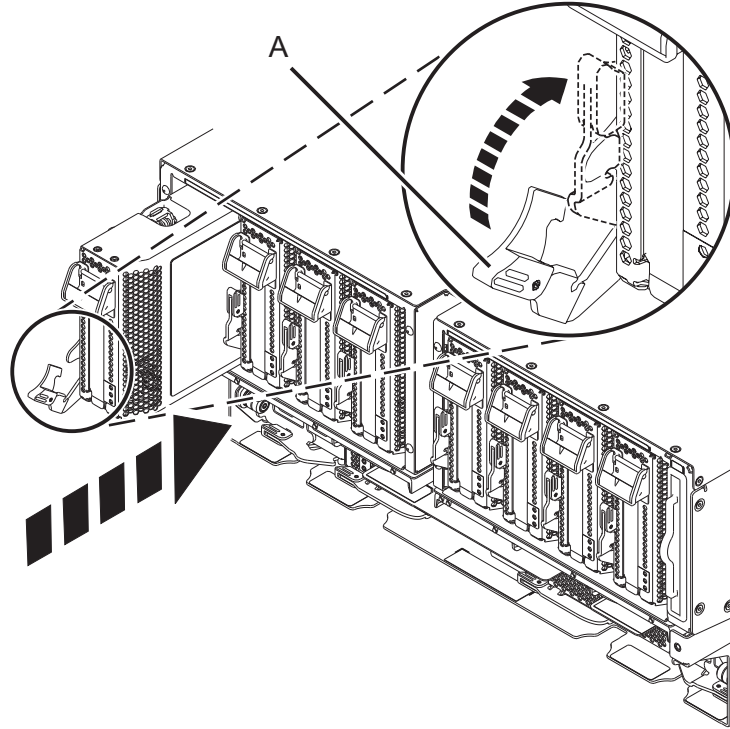

Figure 45. Installing a PCIe adapter cassette in the system
- a. With the cassette handle (A) in the open position, carefully grasp the adapter cassette by its edges, and then align the adapter cassette with the slot. See Figure 45 on page 43.
- c. When the cassette is fully inserted into the slot, rotate the terracotta cassette handle (A) in the direction that is shown in Figure 45 on page 43 to lock the adapter cassette in the slot.